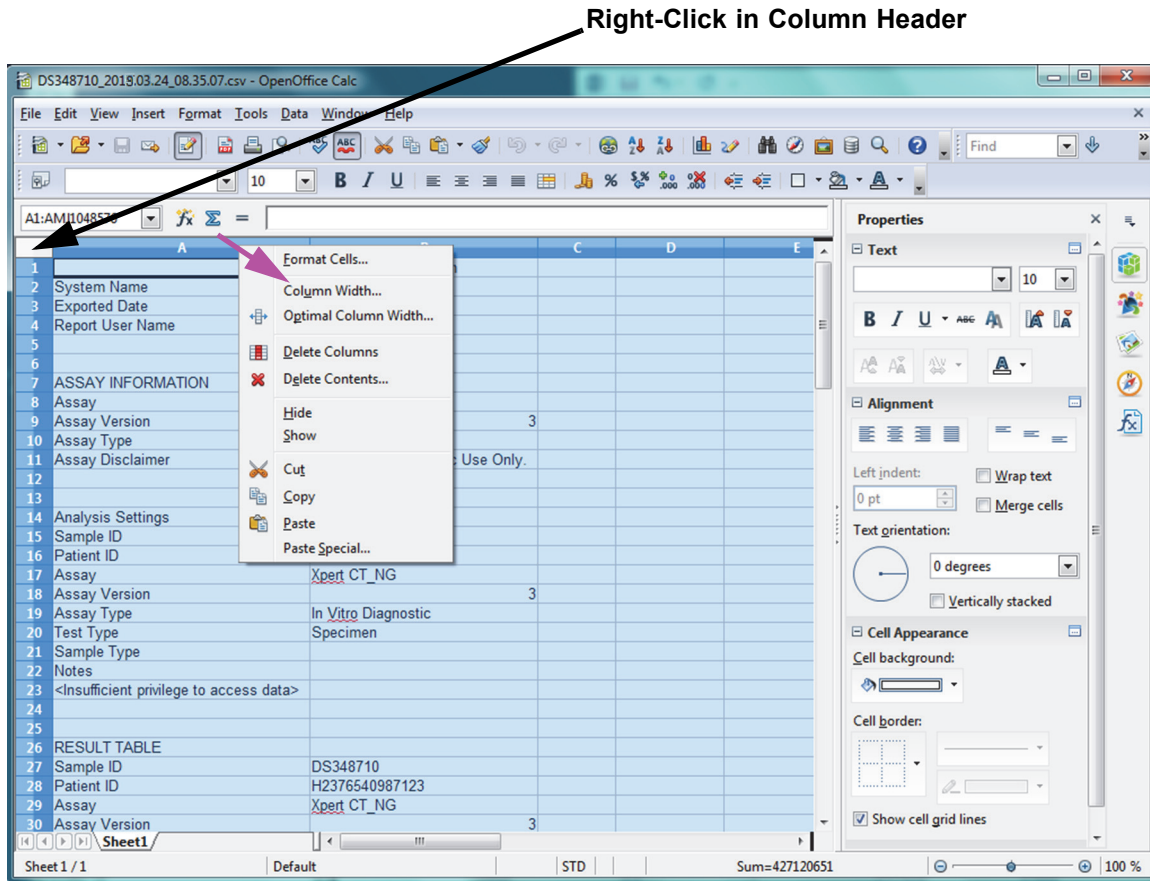

Figure 5-57. Drop-Down Menu to Select Column Width
5. Right click on the column header. A drop-down menu will appear at the right of the column (see Figure 5-57).